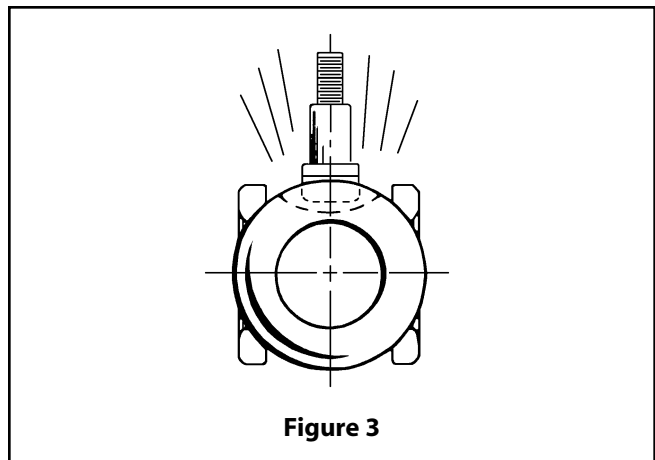

Figure 3
1. Slide one valve seat (5) sidewise into the body cavity (1) to just below the stem hole and tilt it into place so that the proper face will come in contact with the ball (3) (**see Figure 3**) Do not scratch or cut the seat face.
2. From inside of the body cavity, insert one secondary stem seal (7) and one stem seal (8) up into the lower stem counterbore.
3. From the outside of the body, insert the set of upper stem seals (24) into the upper stem counterbore.
4. Insert the stem (4) into the body cavity (threaded end first), and press it gently up into the stem bore until resistance is felt from the lower stem seal. Be careful not to scratch seals.
5. Holding the stem in place from inside the body, drop the compression ring (21) over the threaded end of the stem protruding out of the body stem bore. Follow the same procedure with indicator stop (12) and lock washer (33). Then screw on stem nut (16).